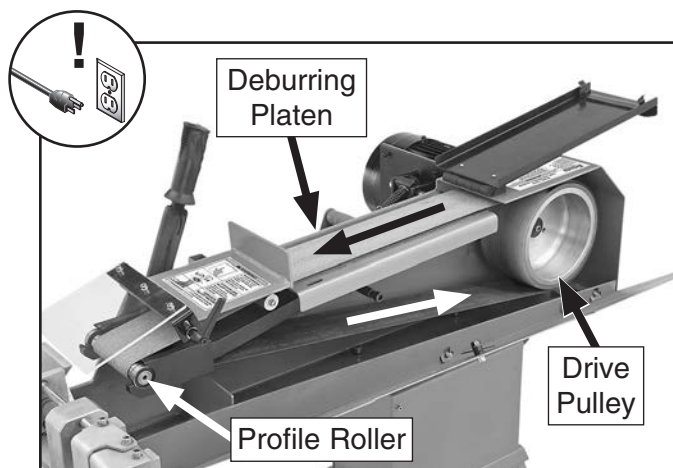

Figure 23. Correct installation and orientation of abrasive belt direction arrows.
5. Slide abrasive belt onto profile roller, drive pulley, and over deburring platen so that direction arrows stamped on inside of belt are pointing in same direction as arrows shown in **Figure 23**.